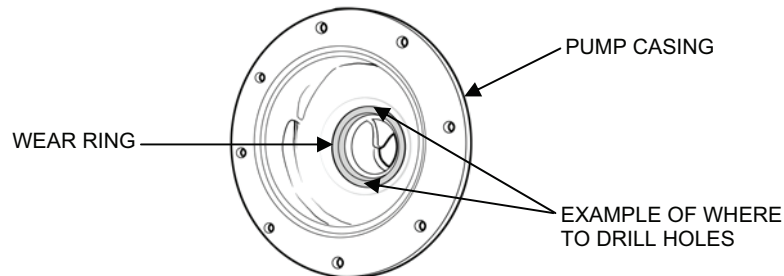

Figure 23. Wear Ring Removal.
7. If the wear ring is damaged, replace it as follows (see Figure 23):